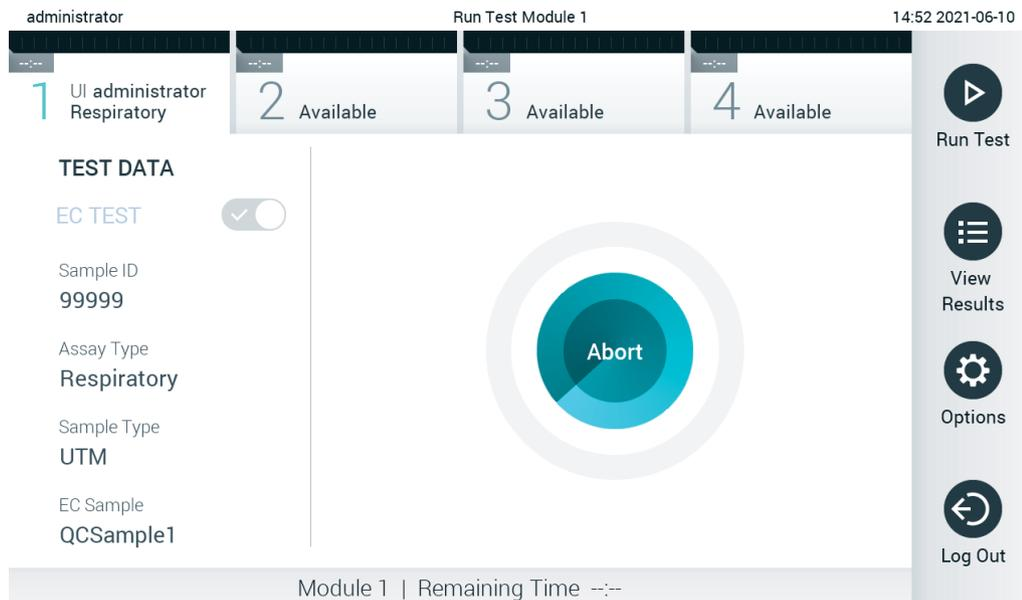

Figure 94. Test execution and remaining run time display.
10. Upon detecting the QIAstat-Dx assay cartridge, the QIAstat-Dx Analyzer 1.0 will automatically close the lid of the cartridge entrance port and start the test run. No further action from the operator is required. While the test is running, the remaining run time is displayed on the touchscreen (Figure 94, next page).